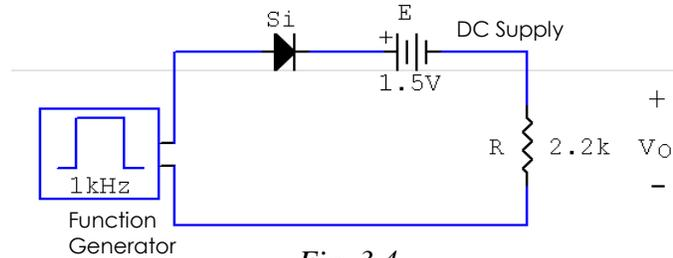

*Fig. 3.3*
1. Construct the circuit in *Fig. 3.3*. The input signal is an 8 V p-p square wave at frequency of 1000 Hz. Record the measured resistance value.
7. Change the input signal of the circuit of *Fig. 3.3* to an 8 V p-p sinusoidal signal with the same frequency of 1000 Hz. Repeat step 3 and 4 for this circuit.
Get the expected output waveform for circuits in *Fig. 3.1* (Part A) & *Fig. 3.3* (Part C) using PSPICE Simulation.